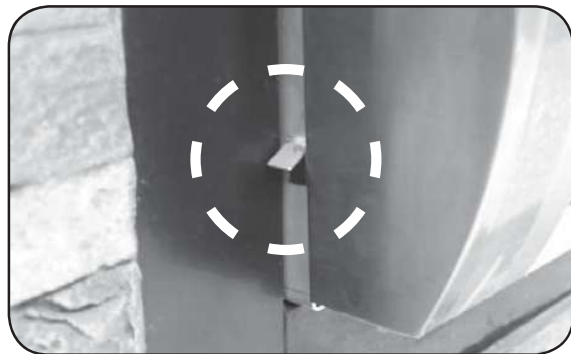
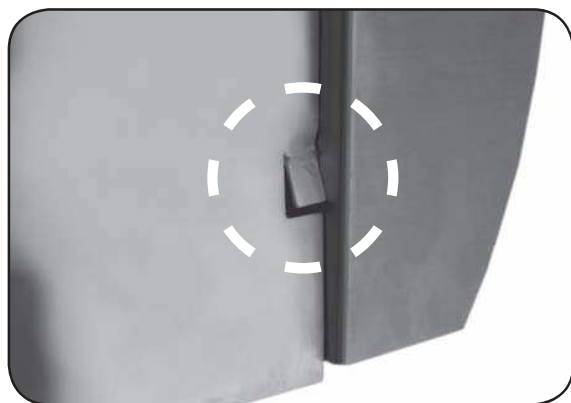

Fig. 19-1 Tab may interfere when sliding in unit
Fig. 19-2 Tab slightly bent in for clearance
**Note:** Each side of the unit has a tab just behind the control panel. These tabs prevent the control panel from moving inward. If the tabs interfere with the unit sliding in (see Fig. 19-1), use pliers to bend them inward so that they clear the enclosure sides. Leave the tabs slightly out to ensure they still keep the control panel from moving inward (see Fig. 19-2).